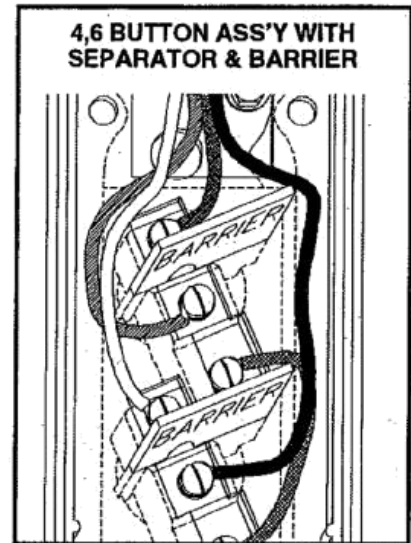

Figure 2
- Install switches in the front half such that the common terminal is towards the pendant top. Place the separator sheet over the switches, ensuring it is fully seated in the pendant front. Install the barriers over each switch (See figure 2).